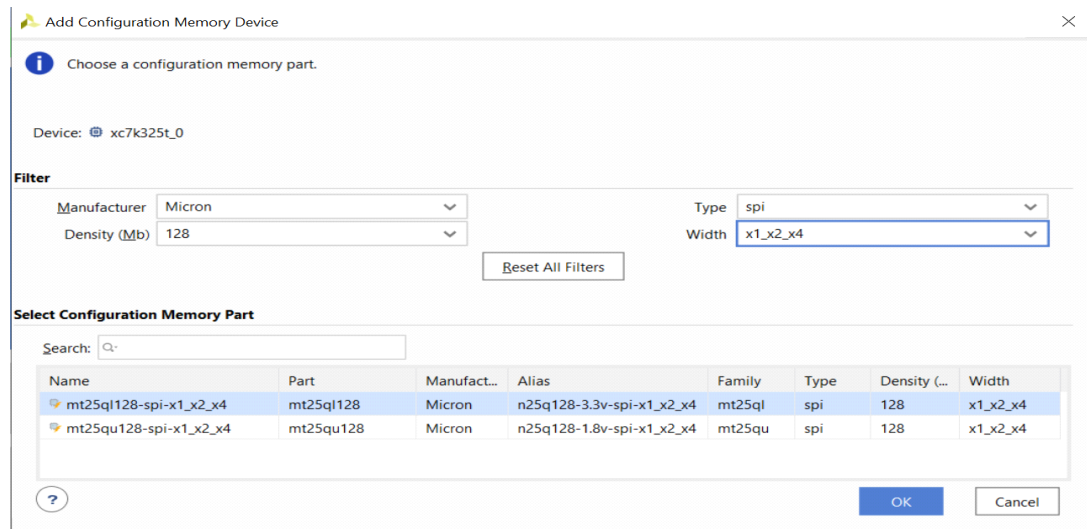

Figure 13: Add Configuration Memory Device
5. In the Add Configuration Memory Device window, select the proper SPI flash from the list. The filter options and the search field can both be used to simplify the search and narrow down the options as shown in Figure 13. Click **OK**.